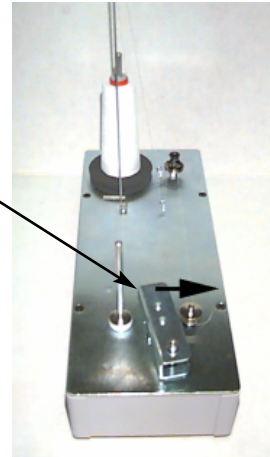

Figure 3-27
3. Move the actuator lever to the ON position (see Figure 3-27) and winding will begin. The winder automatically stops when the bobbin is wound completely.